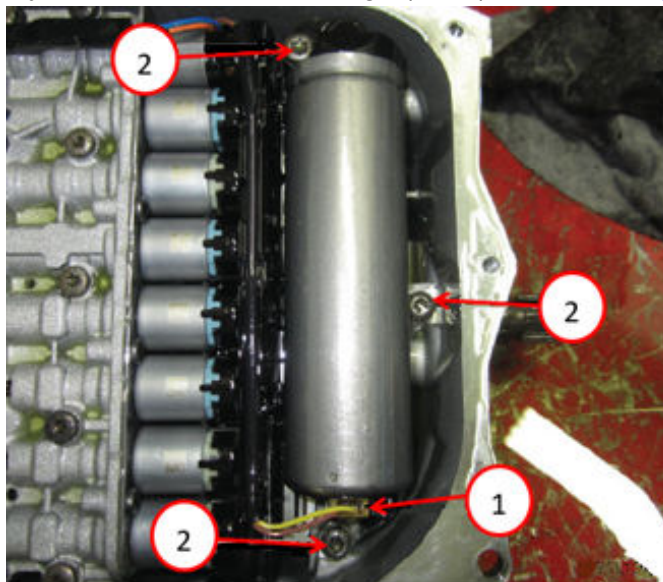

Fig. 7
13. If equipped, disconnect the Hydraulic Impulse Oil Storage (H.I.S) connector Fig. 7.